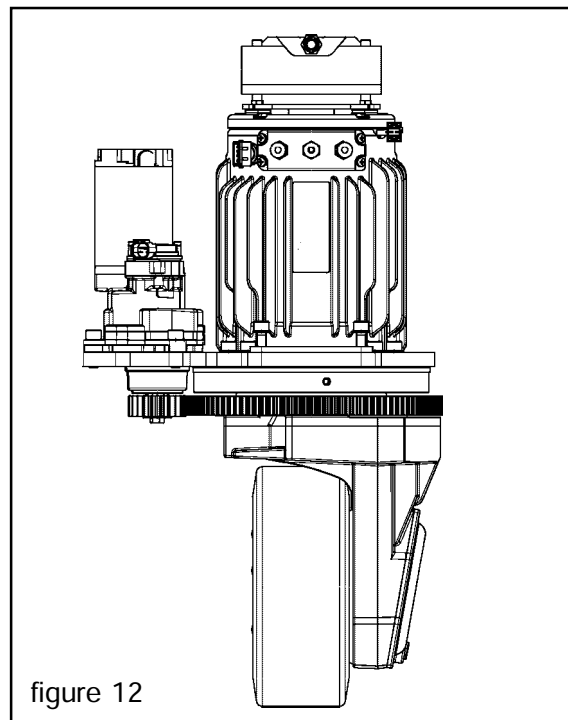

figure 12
- Manually align the drive wheel in "right line" position (figure 12).